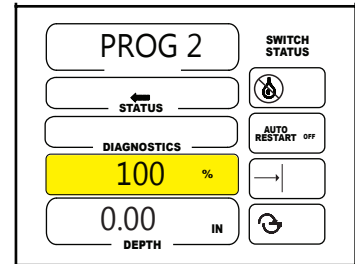

Figure 58-3
3. Set water off and percent timer for the sector. See figure 58-3.